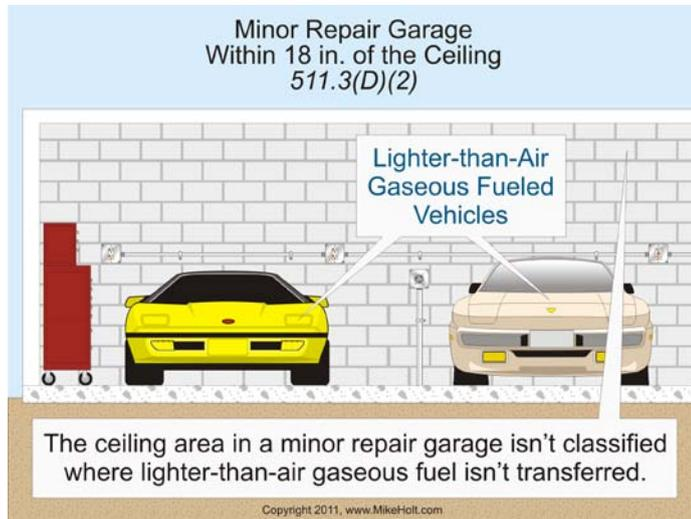

Figure 511-5
(2) **Ceiling Areas.** The ceiling area is unclassified if natural gas or hydrogen won't be transferred. **Figure 511-5**